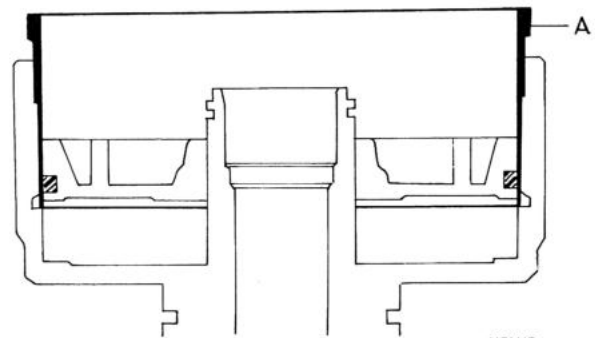

Fig. 4-107. Installing piston for rear clutch
- Fit the sealing rings for the piston. Use fitting ring SVO 2534 and fit the piston in the clutch case, see Fig. 4-107.